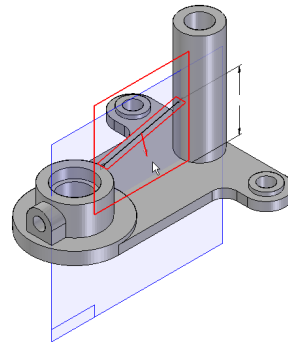

Figure 8-61 Specifying the direction of the rib
5. Enter the value **8** in the **Thickness** edit box and specify the direction, as shown in Figure 8-61.